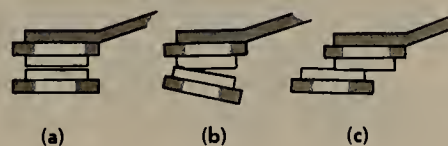

FIGURE 14.21 (a) Correct breaker-point alignment and (b) and (c) incorrect alignment.
3. Adjusting Points. To adjust the breaker points, first make sure they are properly aligned. Figure 14.21 shows the right and wrong ways to align points. As a rule, you will find that the points are properly aligned and no adjustment is required. However, if you do find misalignment of a set of new points, you can adjust them by slightly bending the bracket supporting the stationary point.